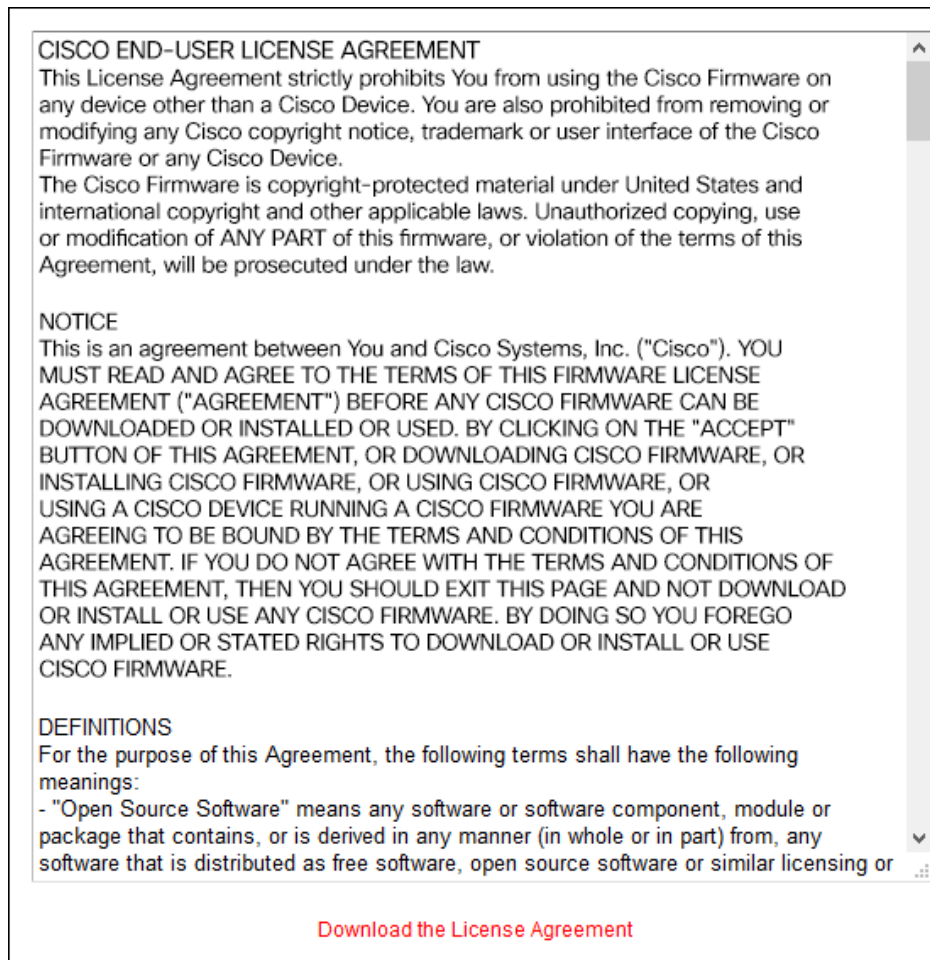

Figure 57. Configurator GUI (End-user license agreement)
- The license agreement dialog will be shown (Figure 57 (page 101)).